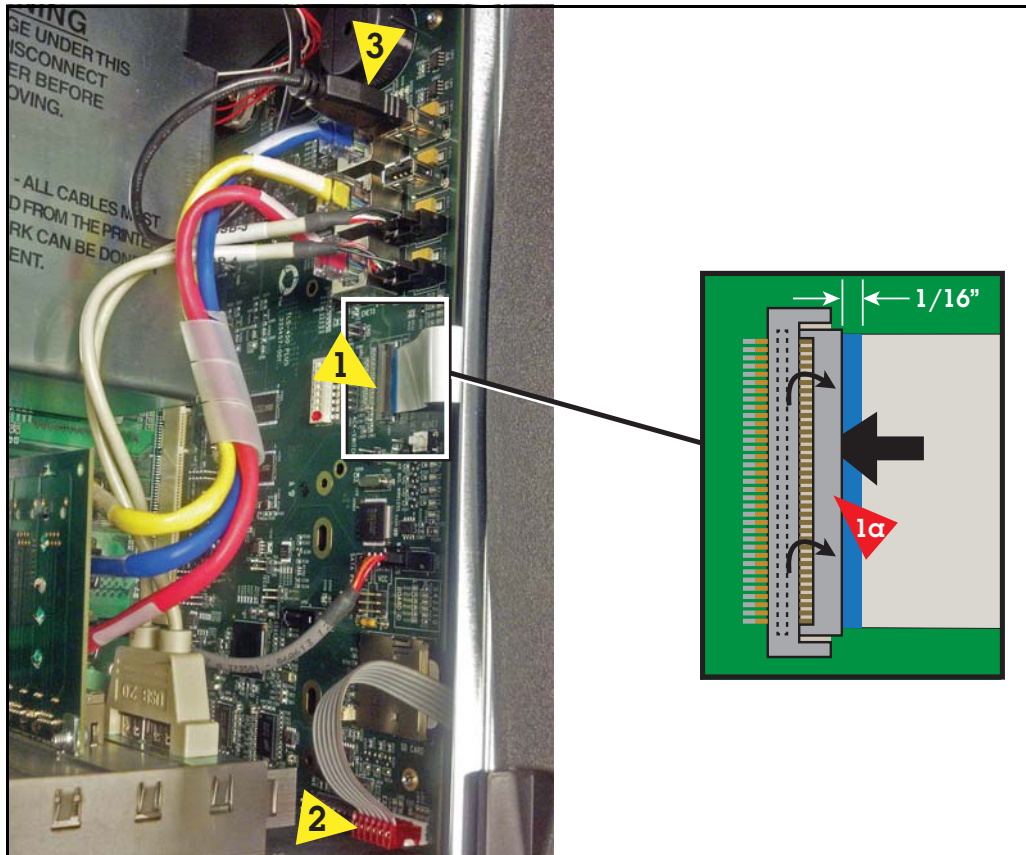

Figure 23. Connect Data Display And LED Backlight Cables To CPU Board
3. Connect the Display door Display Data cable (pointer 1) and the LED Backlight cable (pointer 2) to their CPU board connectors (see Figure 23). If necessary rotate the Display Data cable's locking flap (1a in Figure 23) up from the CPU connector and insert end of the Display Data ribbon cable fully into the connector then push down on the flap (1a) until it rests against the connector. Verify the Display Data ribbon cable is securely seated in the connector and that the flap is down against the connector as shown in the enlarged section. If inserted fully, the blue end of the cable will be no more than 1/16" (2mm) out of the connector as shown.